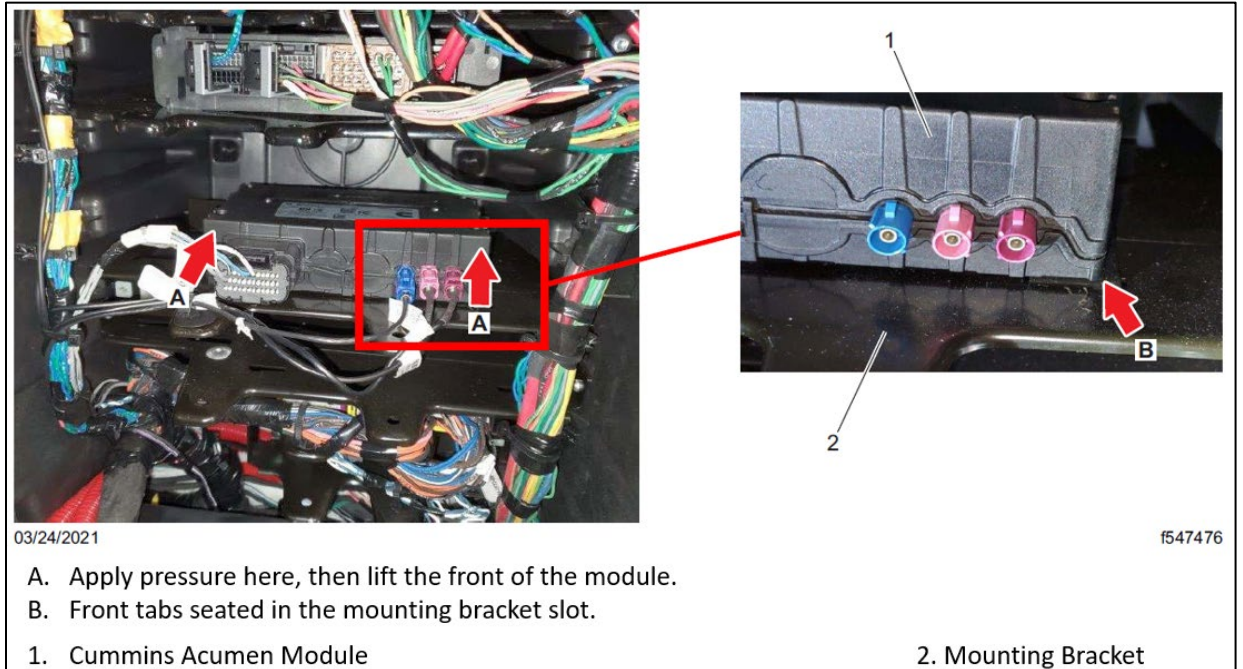

Fig. 12, Cummins Acumen Module Removal
2. Remove the Cummins Acumen module from the electronics bay by applying light pressure at the front of the module in order to push it backwards, then lift it to release the front tabs. See Fig. 12.